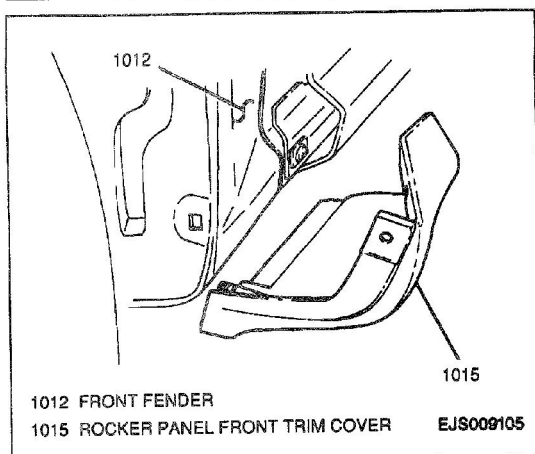

Figure 9—Rocker Panel Front Trim Cover
4. One screw, one nut and remove rocker panel front trim cover from vehicle to gain access to two front fender lower mounting bolts (Figure 9).
5. Rocker panel front trim cover to vehicle; secure with one nut and one screw (Figure 9).